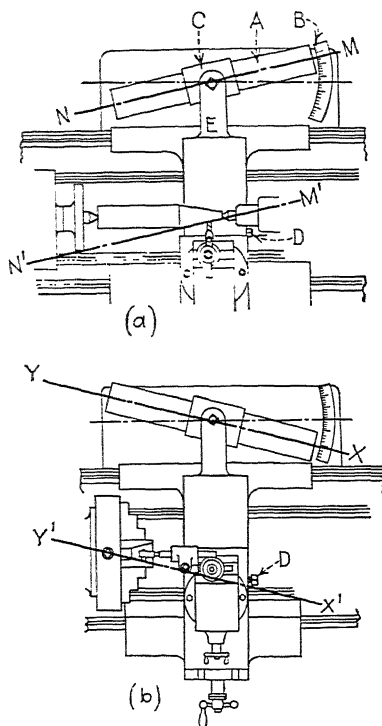

FIG. 158.—Using the taper attachment; (a) turning a taper; (b) boring a taper hole.
centers in line, but by freeing the cross slide and then guiding it (and the tool) gradually away from the center line, cause a taper to be turned as in *a*, Fig. 158, or guiding it gradually nearer the center line, as in *b*, cause a taper hole to be bored.
**173. Parts of the Taper Attachment.**—There must be a guide to control the movement of the cross slide, and there must be a connection of some kind between the guide and the cross slide. It is the combination of the free cross slide, the guiding arrangement, and the connection, that makes the taper attachment. There are a number of designs of these attachments but the principle of operation is the same for all. The main features as shown in Fig. 158 are as follows:
**177. Boring Tapers with Taper Attachment.**—The best way to bore a taper in a lathe is by the use of the taper attachment (*b*, Fig. 158). Extreme care must be exercised that the backlash or lost motion is taken care of when tapers are being bored with the taper attachment. Otherwise the hole will be bored straight for a certain distance, before the taper starts. Be sure that the boring tool is small enough to operate without rubbing at the small end of the hole.